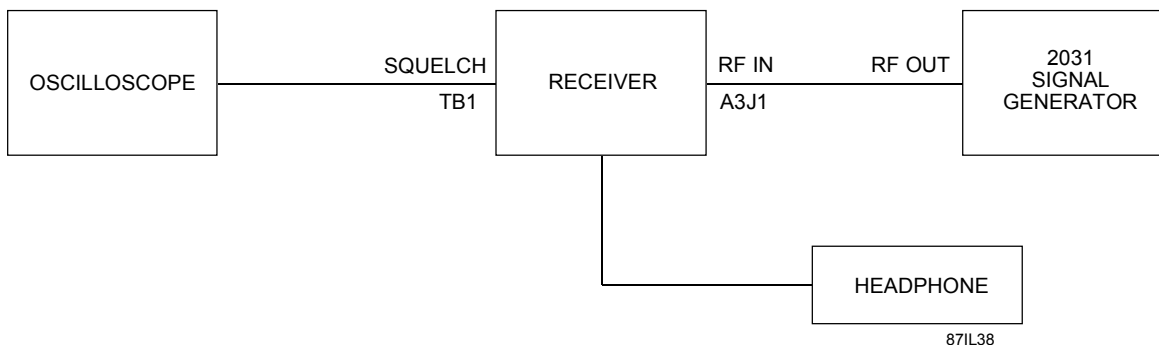

Figure 7-7. Squelch/ Mute Performance Test Equipment Connection
1. Connect the WJ8711A Receiver and test equipment as illustrated in **Figure 7-7**.